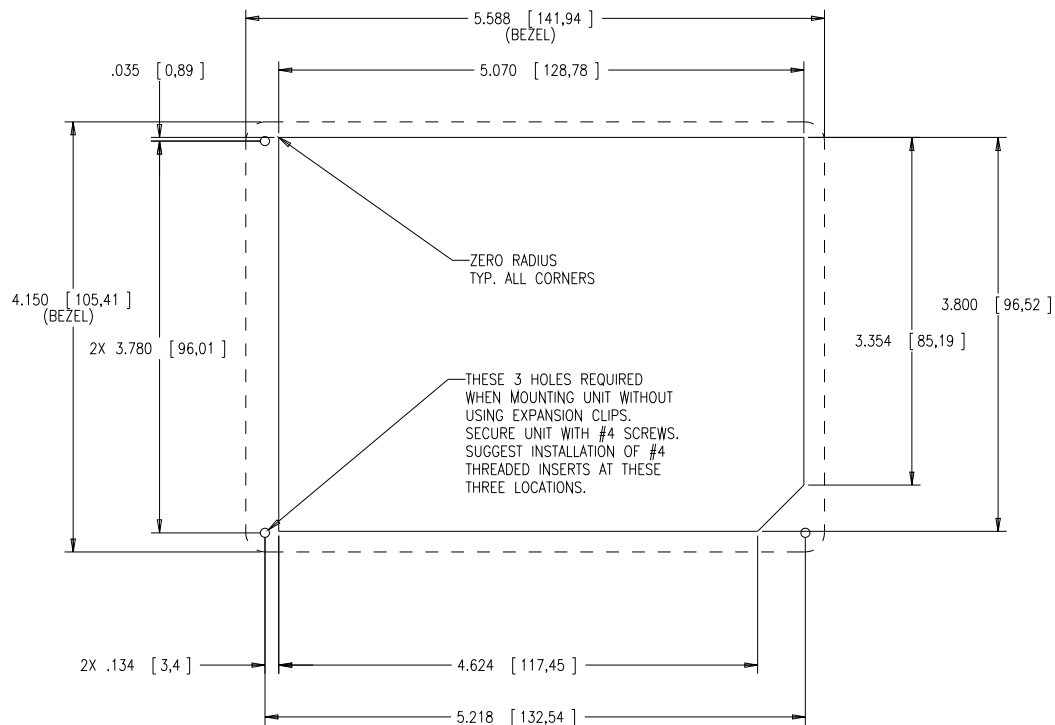

FIG. 10 NXD-430 Wall Mount panel dimensions
- Refer to the diagram for detailed installation dimensions as shown in FIG. 10.
2. Cut out the surface for the back box. Refer to the dimensions in FIG. 10 for more information.